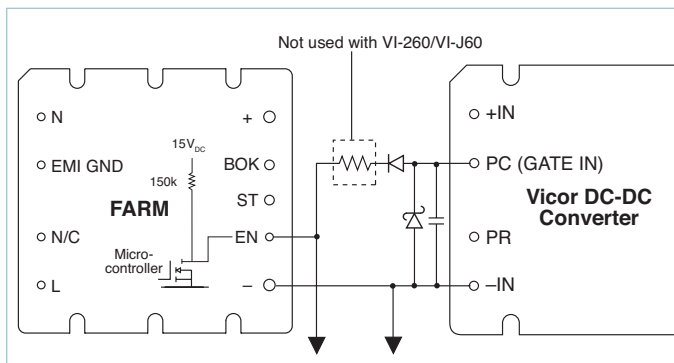

Figure 10 — Enable (EN) function
Enable (EN) Pin: (See Figure 10) The Enable pin must be connected to the PC or Gate-In pin of all converter modules to disable the converters during power up. Otherwise, the converters would attempt to start while the hold-up capacitors were being charged through an unbypassed current limiting thermistor, preventing the bus voltage from reaching the thermistor bypass threshold, thus disabling the power supply. The Enable output (the drain of an N channel MOSFET) is internally pulled up to 15V through a 150kΩ resistor.